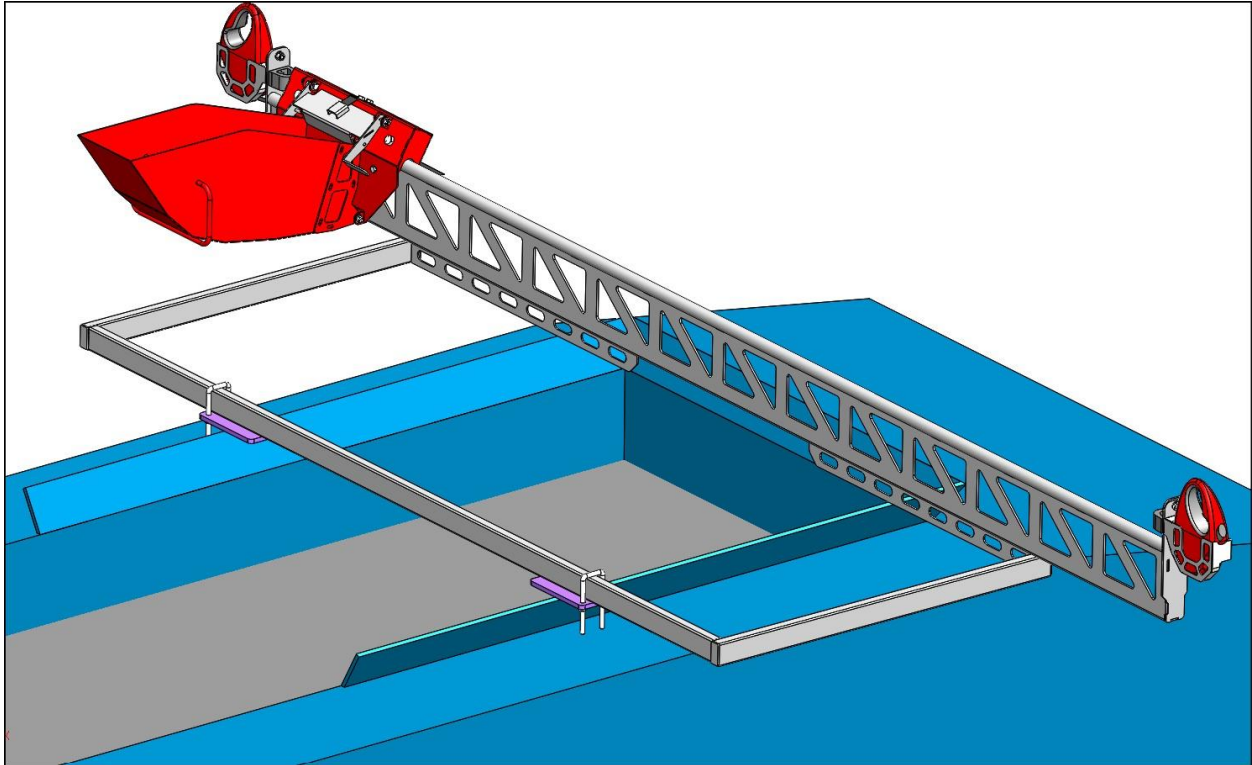

Figure 2 – Showing Sample Taker Attached to Conveyor (Blue) With U-Bolt Brackets. Shown With Downstream Bucket Arrangement.
- The M-500 can be oriented with the rail on the upstream or downstream side of the conveyor stream, depending on the end user requirements - see Figures 2 and 3